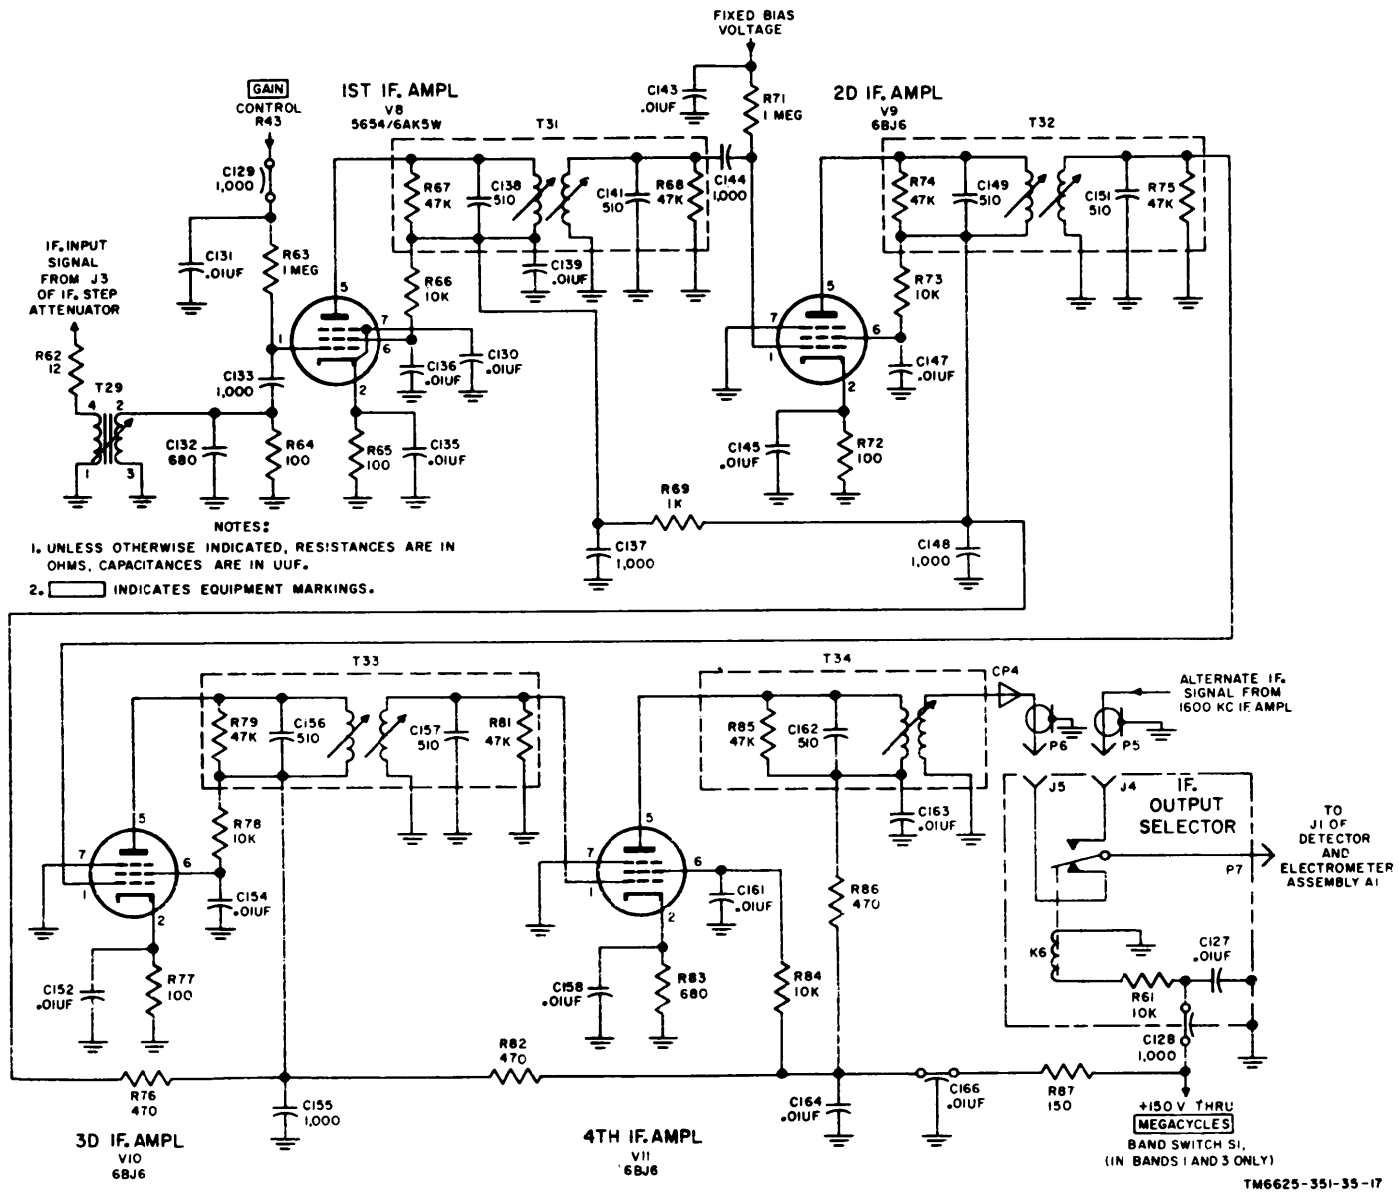

Figure 18. Tuning unit 1, 455-kc if. amplifier and if output selector.
(2) When SIGNAL ATTENUATOR DB switch S701 is placed at 40, 60, and 80 DB, both relays K3 and K4 are energized. This action places resistors R34 and R36 in series with the signal path, with the other resistors in the ladder network still retaining their shunting effect. The result is a 20-db increase in signal attenuation with respect to the deenergized condition of both relays K3 and K4. (Actually, the signal is attenuated 26 db relative to the original incoming signal level because of the inherent 6-db loss of the step attenuator subassembly.)
29. If. Amplifier, 455-Kc, Detailed Analysis (fig. 18)
(fig. 18)